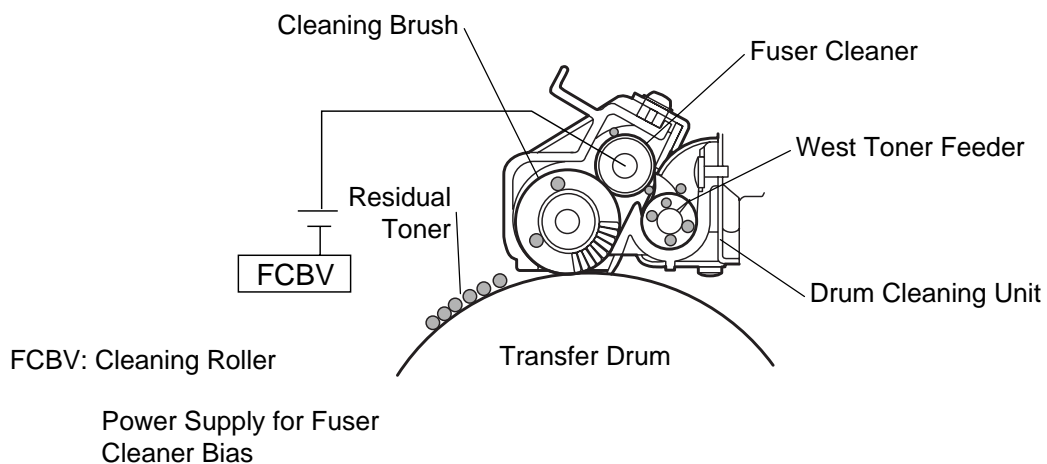

Fig.4-23
- (1) Structure of Drum Cleaning (Refer to Fig.4-23.)
- iv) FCBV(V) is fed to the cleaning brush in contact with the roller and the cleaning brush is self-biased by the resistance of the brush.
- (2) Process of Belt Cleaning (Refer to Fig.4-23.)
- iii) The Drum cleaning roller has been biased to the positive voltage FCBV(V). As the cleaning brush rotates, the residual toner absorbed into the brush from the transfer drum is attracted by the positive FCBV(V) voltage on the roller and adheres to the surface of the drum cleaning roller.